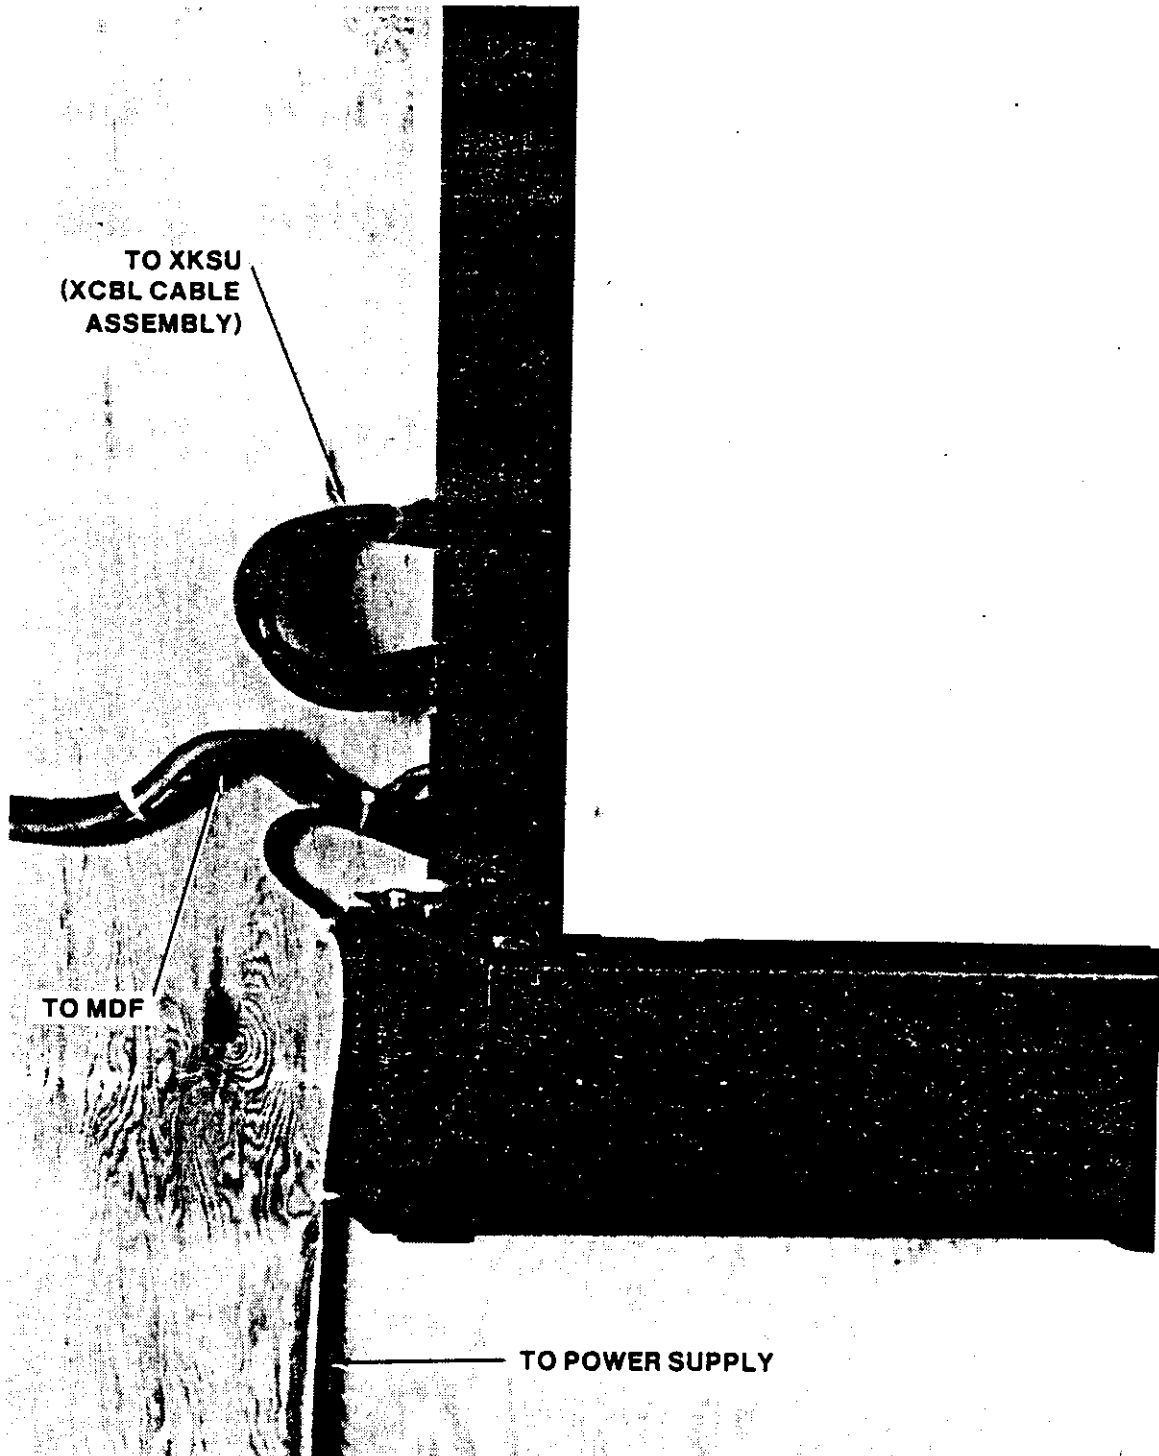

FIGURE 5—CABLING EXAMPLE
3.3.1 Proper cable routing is essential for smooth operation of the Wall Mount Assembly. Refer to Section 100-004-210 for MDF Cabling Instructions and Power Connections while referring to Figure 5 of this Section for proper cable routing information.